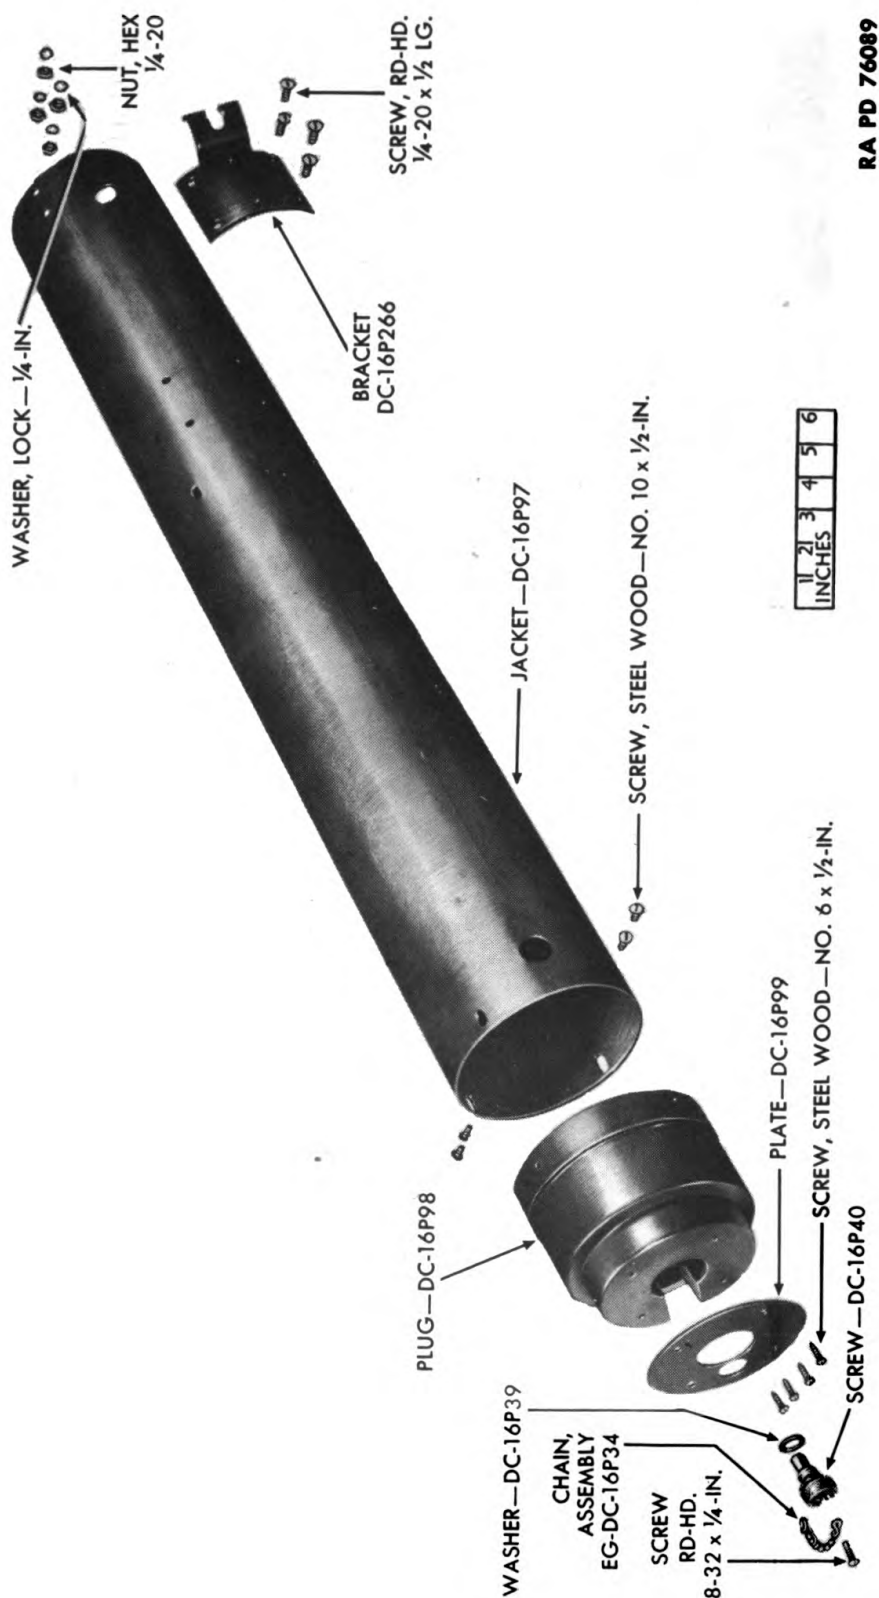

Figure 111 — Water Jacket — Parts
(6) Pull the water jacket forward to remove it and disassemble it as shown in figure 111.